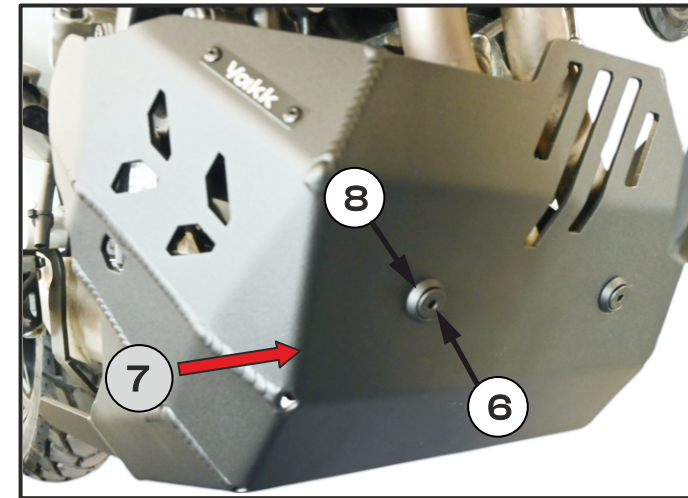

Fig.12
7. Install and fasten the Engine Guard [1] at the front to the Front Bracket [3] using bolts [6] with washers [8]. **[Fig. 1], [Fig. 12]**
8. Fasten the Engine Guard [1] at the rear to the Rear Bracket [2] using bolts [6]. **[Fig. 1], [Fig. 12]** Use a medium-strength threadlocker.